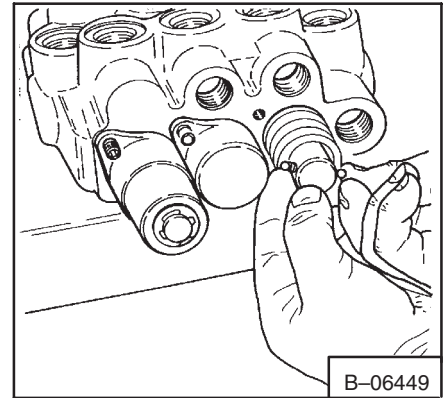

Fig. 2-32a Detent Balls And Spring
13. Remove the balls and spring (Fig. 2-32a) from the detent sleeve.